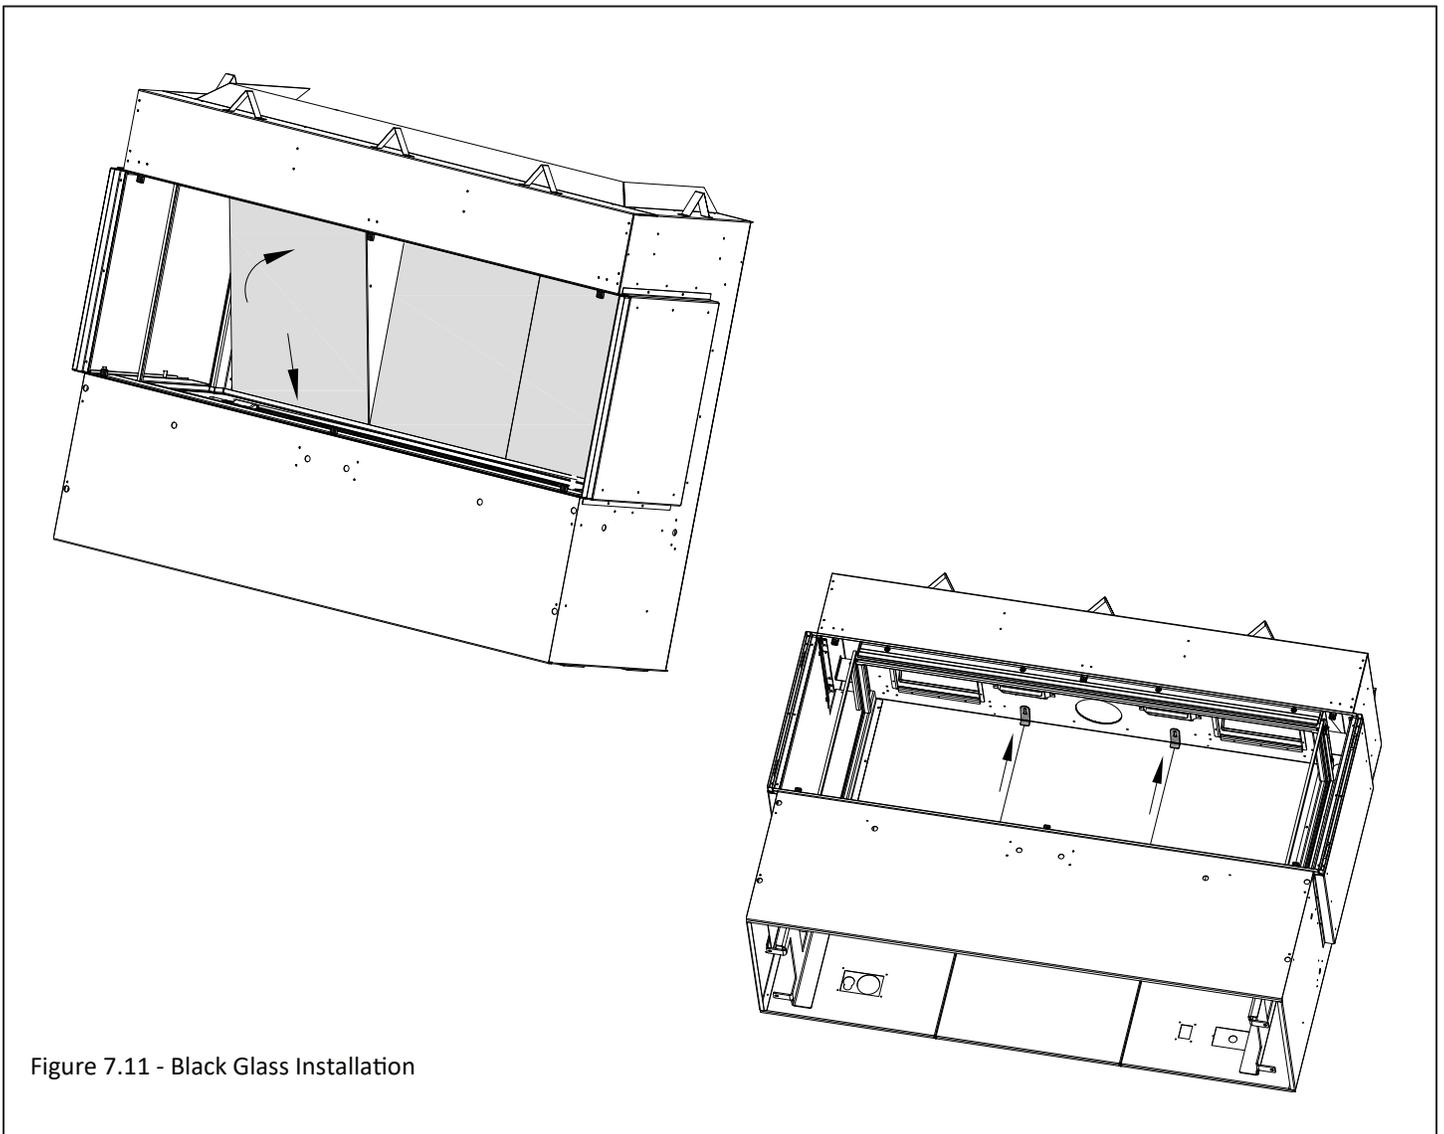

Figure 7.11 - Black Glass Installation
2. Install the (3) rear interior firebox black glass panels. These three panels are the same size and interchangeable. Secure with (2) rear firebox panel clips and (2) sheet metal screws as shown. See Figure 7.11.